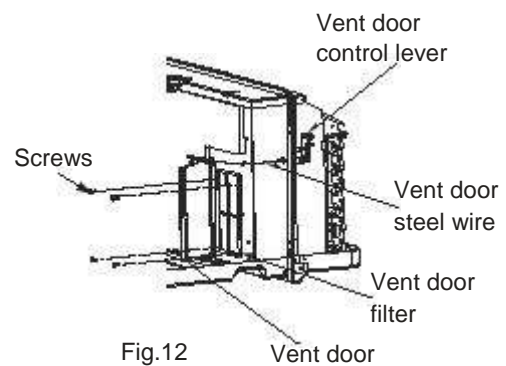

Fig.12
- Remove four screws from the vent door filter. (See.Fig.12)
- First pull out the vent door steel wire from the hole of the vent door, then take off the vent door and filter. (See.Fig.12)